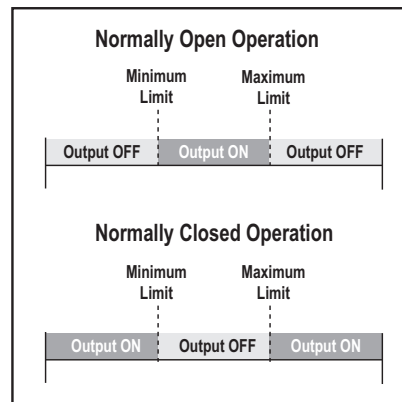

Figure 2. Teaching independent minimum and maximum limits
Sensors can be set up for either NPN (sinking) or PNP (sourcing). In addition, the user can select between Normally Open (NO) and Normally Closed (NC) operation. Normally Open is defined as the output energizing when the target is present. Normally Closed is defined as the output energizing when the target is absent (see figure 2).